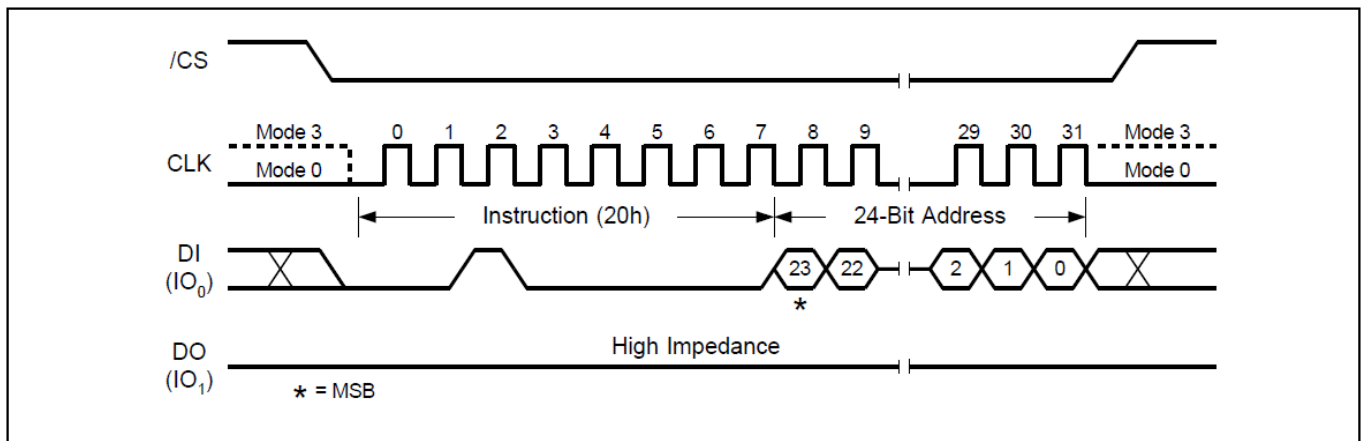

Figure15. Sector Erase Sequence Diagram
The Sector Erase command sequence: CS# goes low → sending Sector Erase command → 3-byte address on DI → CS# goes high. The command sequence is shown in Figure15. CS# must be driven high after the eighth bit of the last address byte has been latched in; otherwise the Sector Erase (SE) command is not executed. As soon as CS# is driven high, the self-timed Sector Erase cycle (whose duration is Tse) is initiated. While the Sector Erase cycle is in progress, the Status Register may be read to check the value of the Write in Progress (BUSY) bit. The Write in Progress (BUSY) bit is 1 during the self-timed Sector Erase cycle, and is 0 when it is completed. At some unspecified time before the cycle is completed, the Write Enable Latch (WEL) bit is reset. A Sector Erase (SE) command applied to a sector which is protected by the Block Protect (SEC, TB, BP2, BP1, and BP0) bit is not executed.